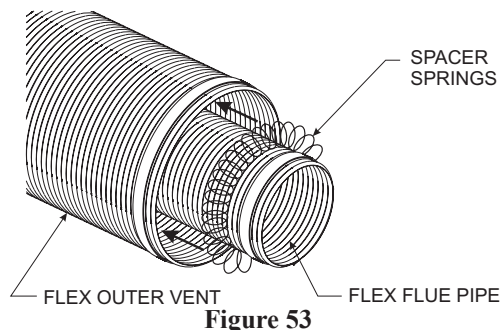
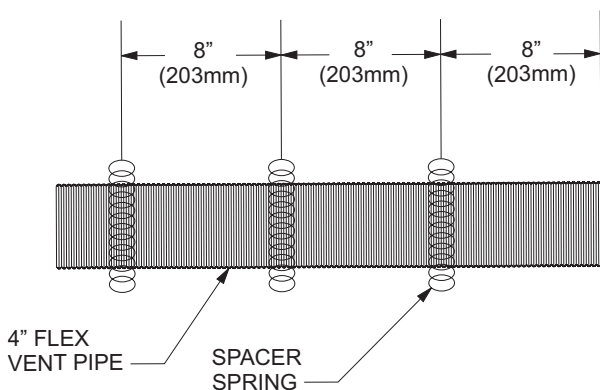

Figure 53
Figure 54
2. Check to see that the vent spacer springs are located around the flue vent at 8" and 12" intervals along its length. **See Figure 53.** If not, stretch the spacer springs to about 15" long and wrap them around the flue, then interlock the ends of each spring about 2". **See Figure 54.** Maintain equal distance between spring spacers.